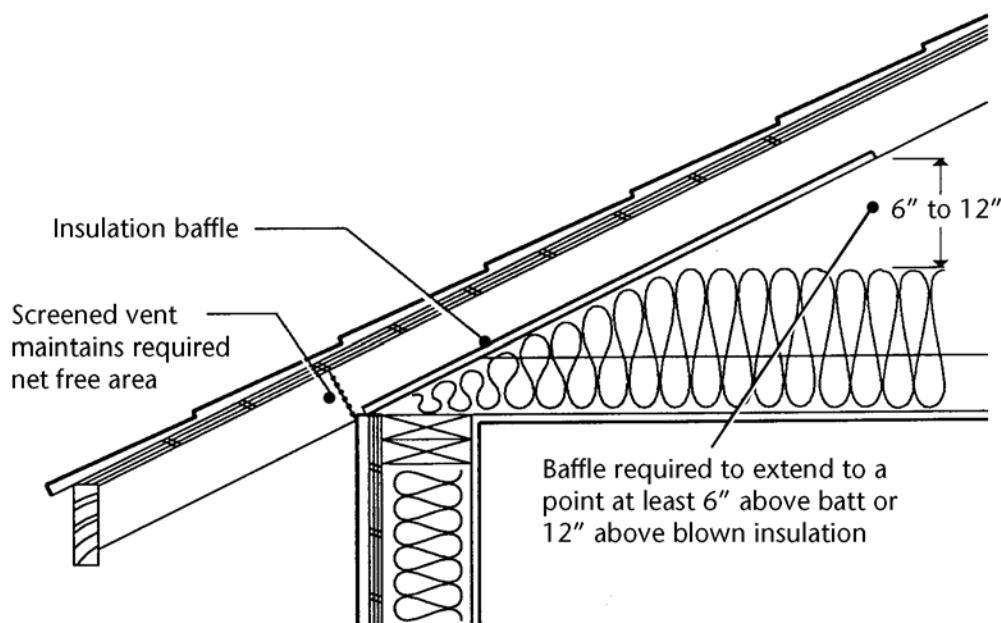

Figure 4-4
**Attic Baffles.** Baffles are necessary to maintain an airspace between the insulation and the roof sheathing when soffit or birdblock venting is used (see Figure 4-4). This promotes cross-ventilation of the attic, helping to remove unwanted moisture. It minimizes potential rot problems, and ice damming in winter.